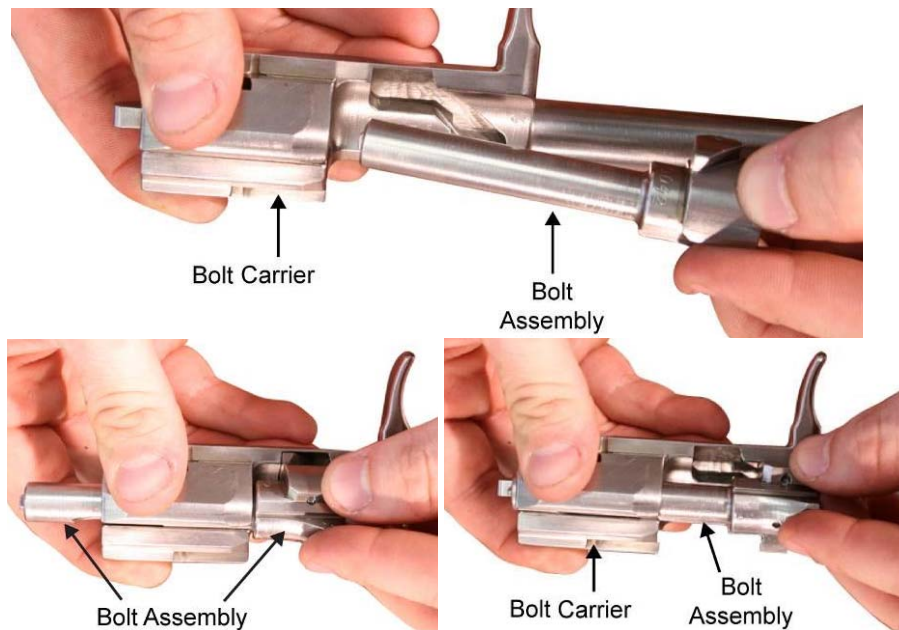

Figure 18. Installing the Bolt Assembly into the Bolt Carrier.
4. Install the bolt assembly in the bolt carrier by pushing the bolt assembly into the bolt carrier, turning the bolt assembly so the bolt cam seats into the cam recess of the bolt carrier, and pulling the bolt assembly forward in the bolt carrier so the bolt cam engages the cam recess, turning the bolt as it moves forward. Refer to Figure 18.